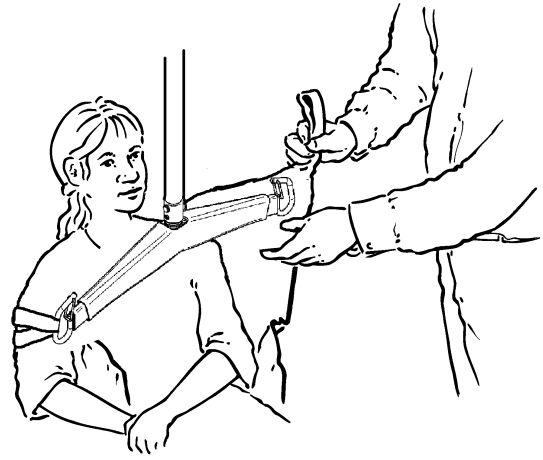

Figure 40
**Important: Always hold the spreader bar until at least a couple of loops are attached to the spreader bar, to prevent it from striking the resident. See figure 40.**